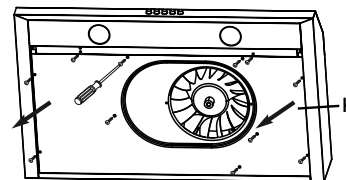

Fig. 12
- The damper and the adapter are located inside the range hood. To access these parts, remove the bottom panel (K) if you have not previously done so (see Fig. 12).
- Choose to install the damper (C) either in the top position (3A & B) for top venting or in the back position (5) for back venting. Adapter (D) is used for top venting only and installs in position 3A and 4.
- Attach damper (C) or adapter (D) over chosen knockout opening. Make sure the damper pivot is oriented on top such that the damper stays closed when not in use.
- Secure the damper (C) or adapter (D) to the range hood (A) with the short tapping screws (BB).
- Seal the damper (C) or adapter (D) to the range hood (A) on all four sides with duct tape.